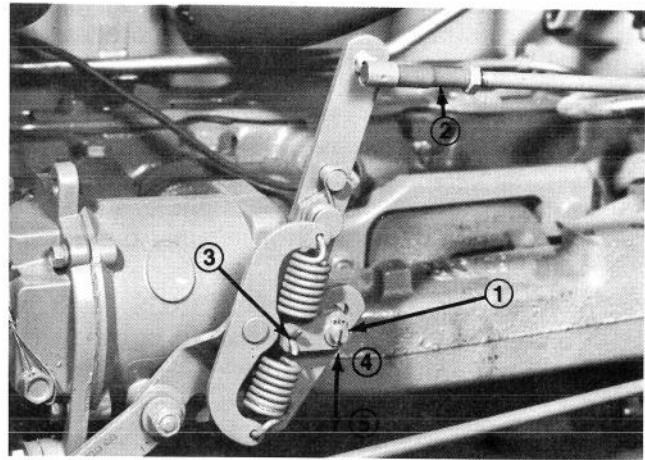

Figure 61
5. To stabilize the governor, eliminate hunting, or to increase the spread of RPM between no-load and full load, loosen the locknut on the regulation screw (Fig. 61), turn the screw counterclockwise 1/8 turn, and tighten the locknut. Readjust hand throttle lever to obtain 1600 RPM. Repeat this procedure as required for proper engine operation.